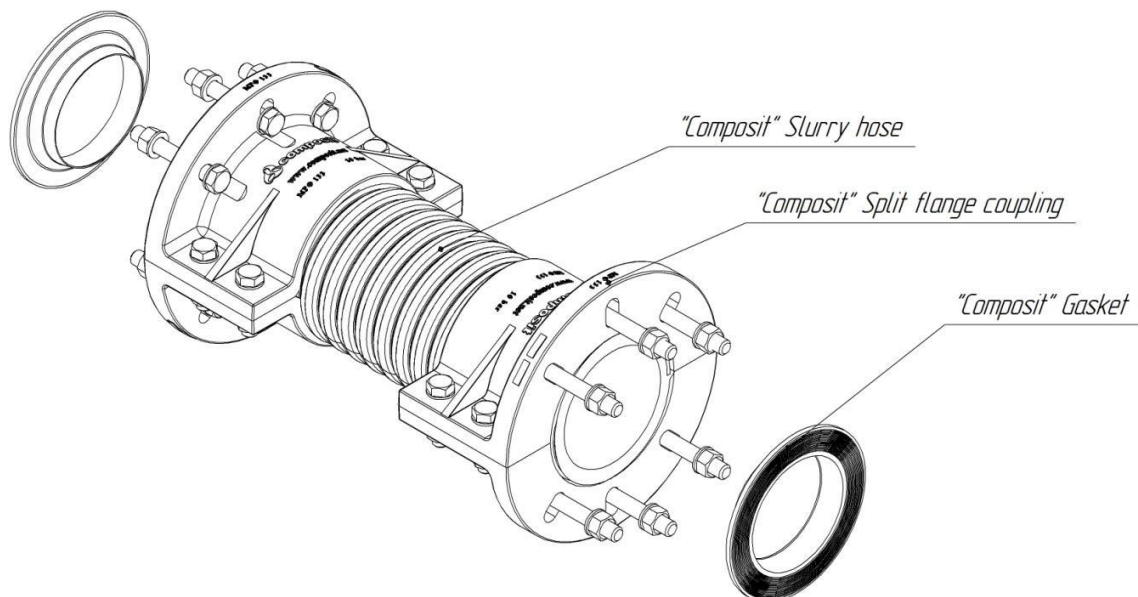

Fig.1
2) **Flexible Slurry Hose Systems** consist of **“Composit” slurry hoses**, **“Composit” split flange couplings** and **“Composit” gaskets** (fig. 1) further mentioned as slurry hoses, split flange couplings and gaskets respectively. All hoses included in the flexible slurry hose system assembled with two split flange couplings and two gaskets of the corresponding size.